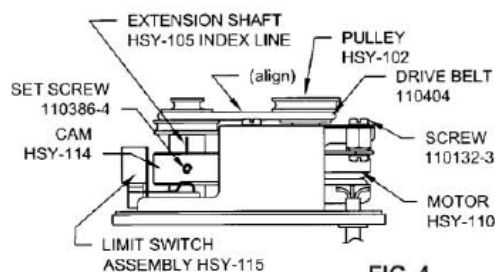

FIG. 4
8. RHSY Series pumps are powered by belt-coupled synchronous motors (refer to figs. 4 & 7c). To service this type of pump, **un-plug power cord**, loosen THUMB SCREW 110437 on rear of CASE ASSEMBLY HSY-109 from COVER ASSEMBLY HSY-113. It will then be noted that a machine SCREW 110230-6 and a STAND-OFF 110439 serve to lock the RH pump head assembly and the SY motor assembly to the COVER ASSEMBLY HSY-113. Removal of the machine screw and stand-off permits removal of pump head and/or motor bracket assembly. Loosening the two machine SCREWS 110132-3 holding the MOTOR ASSEMBLY HSY-110 permits adjustment of the drive belt tension (relocates motor position).
Pulley grooves on motor and pump must be in alignment as shown in fig. 4. SET SCREWS 110288-2 in parts HSY-102 and HSY-105 may be loosened as necessary to achieve such alignment. **Tighten screws** after any service adjustment and **replace CASE ASSEMBLY HSY-109** before plugging electric cord into outlet.
rate is controlled by the groove position in which the belt has been placed. Thus in fig. 4, with belt in central position as shown, the pump operates at 300 strokes per minute; with belt on the small-motor-pulley and large-pump-pulley, (fig. 4) it operates at 150 strokes per minute and with the belt on the large-motor-pulley/small-pump-pulley the pump operates at 600 strokes per minute.
15. CAM ADJUSTMENT. Your micro π -petter® PENDANT SWITCH relates directly to a CAM HSY-114 actuated LIMIT SWITCH ASSEMBLY HSY-115 which is timed to the RH piston suction position; to adjust this CAM, **unplug power cord**, loosen THUMB SCREW on rear of CASE ASSEMBLY HSY-109-1 and remove CASE ASSEMBLY. The CAM timing and height are adjusted by one SET SCREW 110386-4 (see fig. 4). Align SET SCREW in CAM to index line on EXTENSION SHAFT HSY-105. Lower CAM until recessed surface of CAM contacts LIMIT SWITCH ASSEMBLY HSY-115. Tighten set screw. Check for 2 SWITCH "clicks" per revolution. **REPLACE CASE ASSEMBLY** before plugging electric cord into outlet.